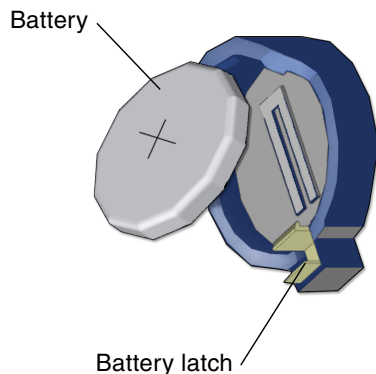

FIGURE 11-22 Releasing the Battery
3. Release the battery (FIGURE 11-22).